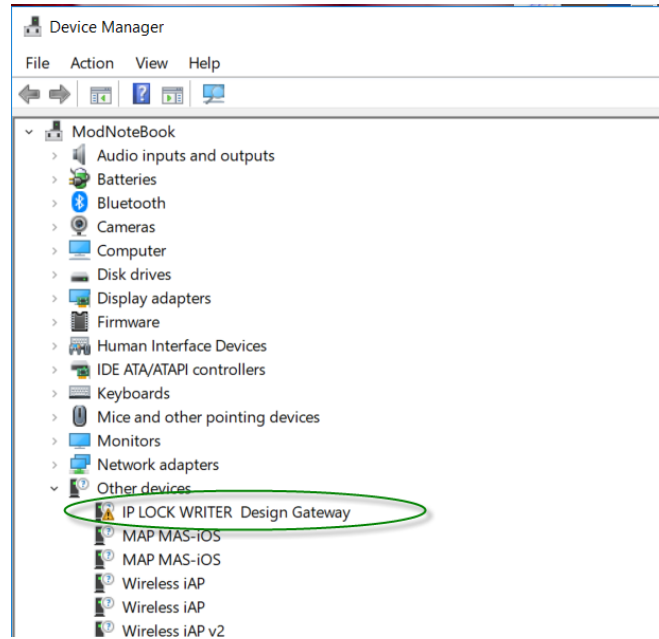

Figure 7-1 IPLock Writer device is shown in device manager
1. After plug in IP Lock writer to PC, Open Device Manager and will see device name “IP LOCK WRITER Design Gateway” is shown below Other devices category (Figure 7-1). Click right mouse then select “Update driver”.